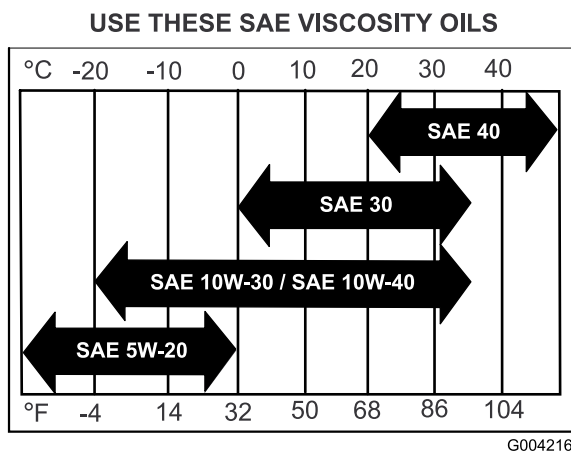

Figure 27
**Viscosity:** Refer to the table (Figure 27).